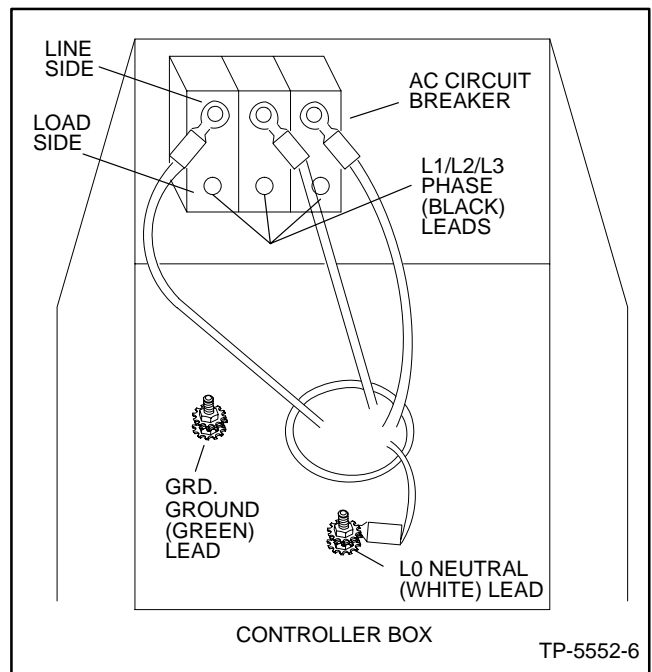

Figure 2. Circuit Breaker Mounting in Controller
6. With stator leads connected to the proper voltage configuration, attach stator leads for L1, L2, and L3 to side of circuit breaker marked LINE. Connect stator leads used for neutral connection to L0 stud. Be sure positions of terminals and leads allow access to LOAD connection studs. See Figure 2.